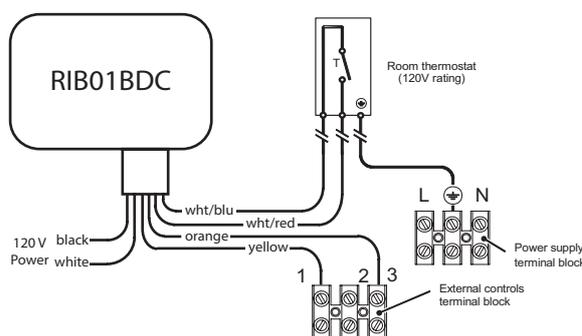

Figure 12.7
- The room thermostat must be connected to the “Control Terminal Block” through a external relay such as the RIB01BDC (Fig 12.7).
- Connect the room thermostat and relay control between terminals 1 and 3 as shown in Fig. 12.7.